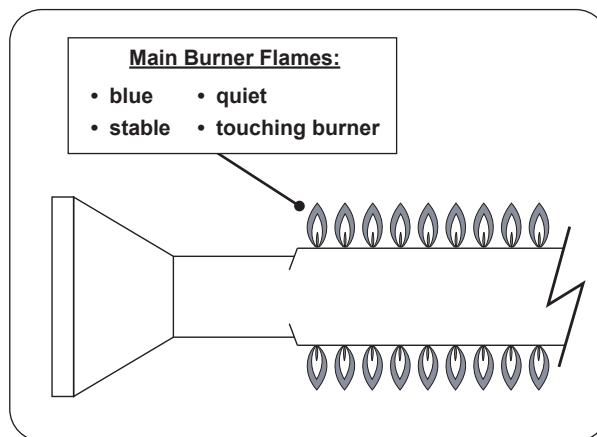

Fig. 38-1 Proper flame appearance
Note: To verify proper settings, the flames of the burners should be visually checked for proper flame appearance and behavior. Light the grill with the burner(s) on HI setting. Allow at least 2 minutes to burn. See below and Fig. 38-1. The flames should:
2. After burning for two minutes, open the air shutter **using the tip of a screwdriver** until the flames lift off, or appear not to be touching the burner (Fig. 38-1).